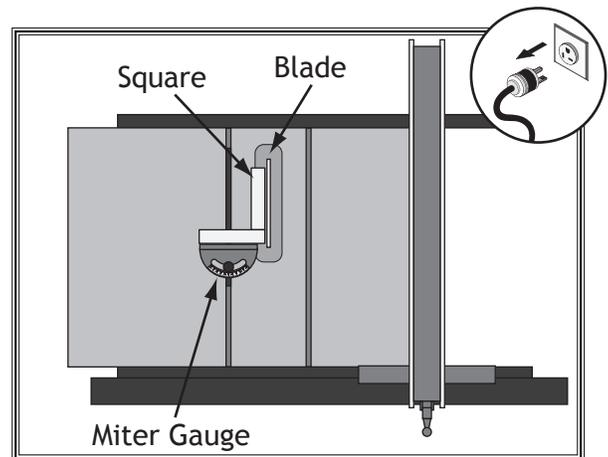

Figure 126. Checking 90° stop on miter gauge.
4. Place square evenly against face of miter gauge and blade, as shown in **Figure 126**.